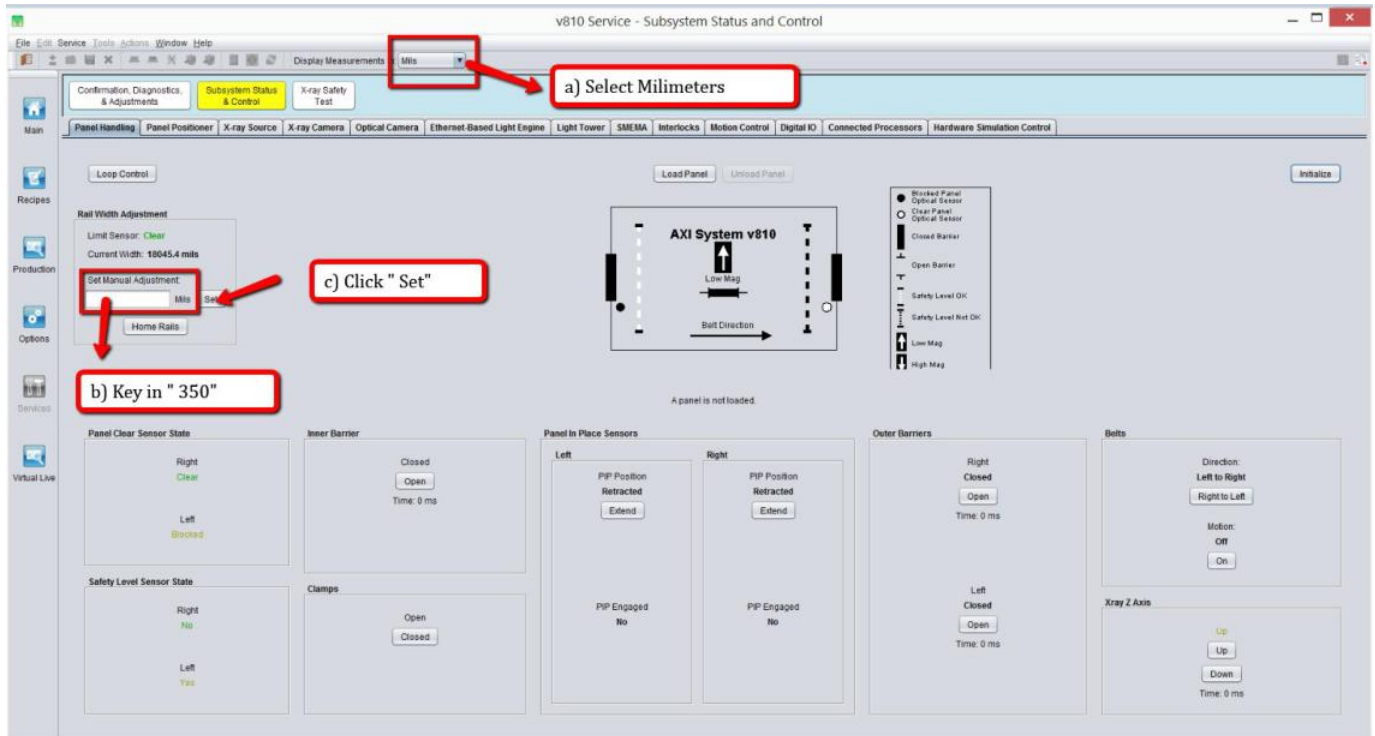

Figure 54 Panel Handling Interface
60. Set the Display Measurement to millimeters as below Figure 54
61. Go to the Set Manual Adjustment as key in 350 and click "Set" as below Figure 54